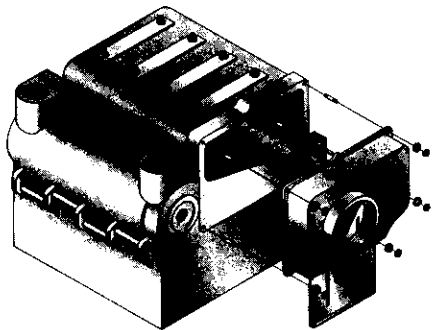

Figure 16: Rear Flue Collar Attachment
1. (LC) Remove the Flue Collar and Rear Observation Door Assembly from the LC Rear Flue Box Carton. (LCE) Remove the Top Flue Outlet Plate, the Rear Flue Cover Plate and the Rear Observation Door Assembly from the LCE Top Flue Outlet Carton.
2. (LC) Attach the Flue Collar to the Back Section with 5/16" x 1 1/2" studs, flat washers and hex nuts supplied. See Figure 16. (LCE) Attach the Rear Flue Cover Plate to the Rear Section with 5/16" x 1 1/2" studs, flat washers and nuts supplied.